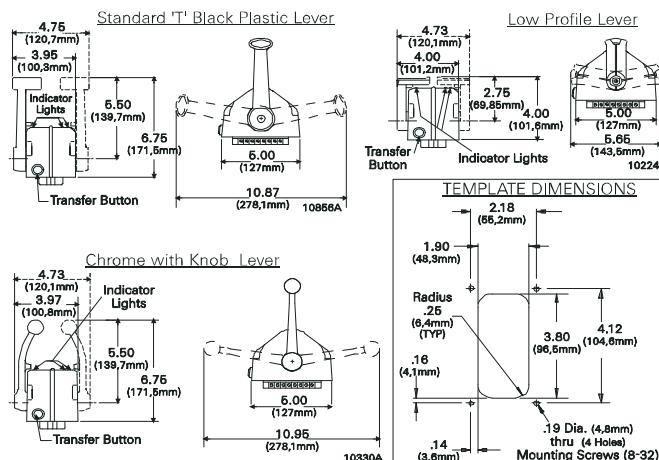

Figure MMC-280-3: Dimensions
- Select the desired mounting locations and make cutouts per template. Refer to Figure MMC-280-3: Dimensions.